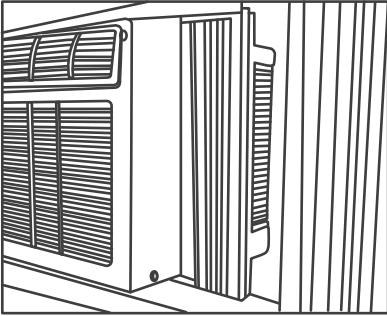

Fig.5
- Keep a firm grip on the air conditioner, carefully place the unit into the window opening so the bottom of the air conditioner frame is against the window sill (Fig.5). Carefully close the window behind the top rail of the unit. (**Suggest to keep a downward oblique, to let accumulated rain water to drain out, from back side of the unit bottom.**)